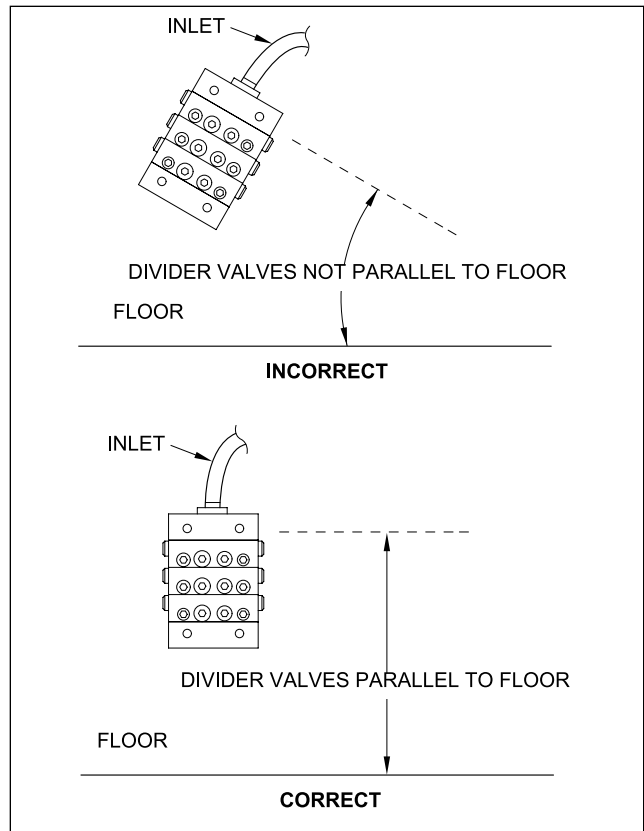

Figure 2
- The divider valve assembly should be oriented so that the spools in the working-valve sections operate parallel to the ground floor. Avoid mounting the divider valves in such a way that they are tilted relative to the ground floor plane or perpendicular to it (see Figure 2).